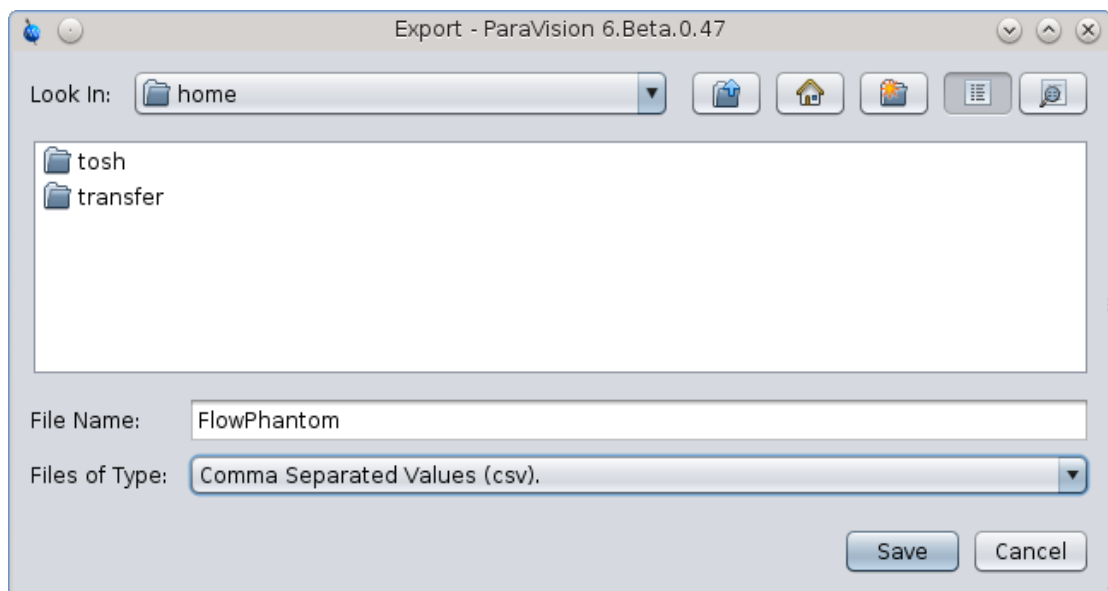

Figure 1.146: Export
- ▶ A dialog is shown that allows you to specify an output file (see [Figure 1.146 \[172\]](#)). By the extension of the output file you can determine the format of the file: